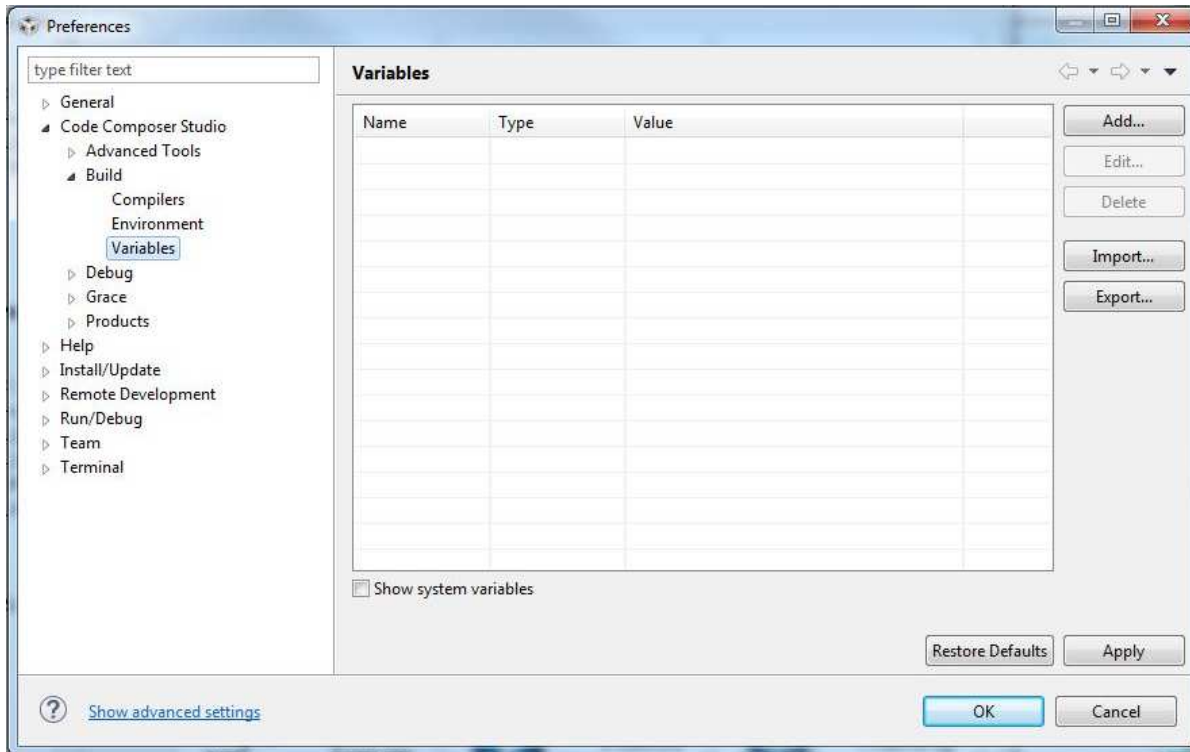

Figure 18. Code Composer Studio™ Installation – Add Variable
2. Run CCS and choose Window → Preferences → Code Composer Studio → Build → Variables → Add (see Figure 18).